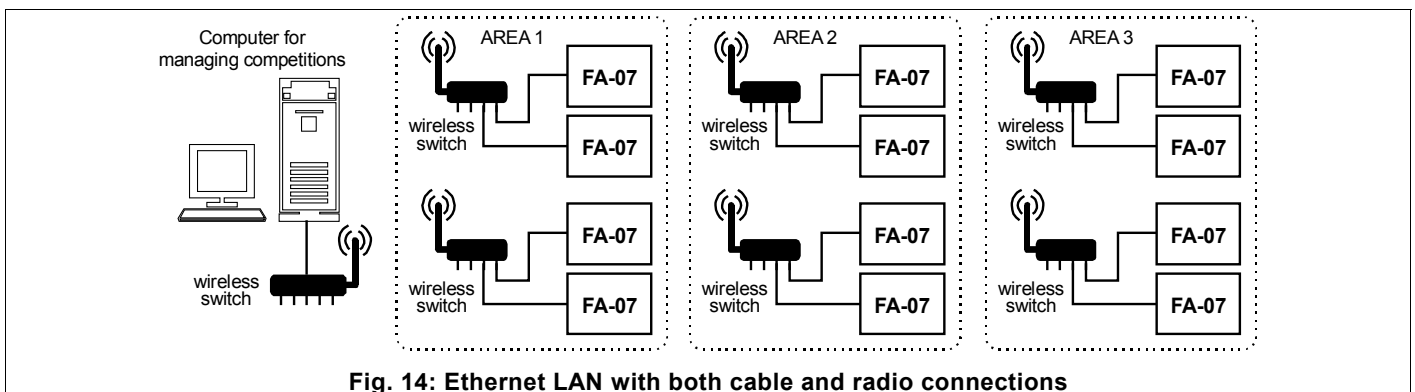

Fig. 14: Ethernet LAN with both cable and radio connections
2. Via radio, using Wireless Access Points, and thus avoiding the use of cable connections. We suggest a configuration which uses a Wireless Access Point with 2 Ethernet points to which the two **FA-07** apparatuses with 2 adjoining pistes can be connected. In this way a single 12V car battery can supply the 2 apparatuses and the Access Point, allowing the power supply cables and network cables to be eliminated. See Fig. 14.